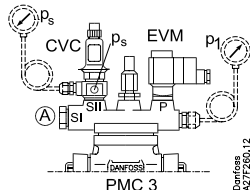

Fig. 7
1. Plug A in SI, CVC in SII, EVM in P: Modulating capacity control combined with valve open override. See figs. 7 and 8.